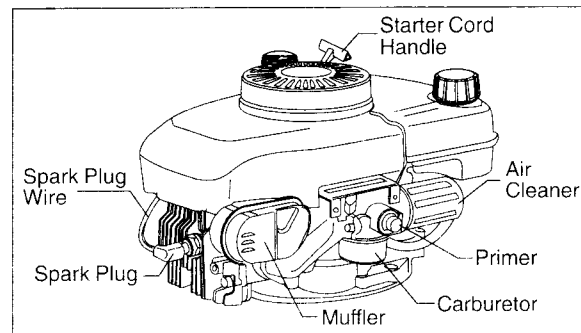

FIGURE 2: Engine Component Locations
**a) RECOIL STARTERS:** Grasp starter cord handle (figure 2 or 3) and pull cord out slowly until you feel drag. Let cord rewind slowly. Pull cord with rapid, full arm stroke. Return cord slowly to original position.
2. When starting a cold engine, push primer bulb firmly with your thumb 3 times, allowing primer bulb to return completely to original position between pushes (figure 2). Below 55°F additional primes may be needed.
**a) RECOIL STARTERS:** Grasp starter cord handle (figure 2 or 3) and pull rope out slowly until you feel drag. Let cord rewind slowly. Pull cord with rapid, full arm stroke. Return cord slowly to original position.
- a) **RECOIL STARTERS:** Grasp starter cord handle (figure 2 or 3) and pull cord out slowly until you feel drag. Let cord rewind slowly. Pull cord with rapid, full arm stroke. Return cord slowly to original position.